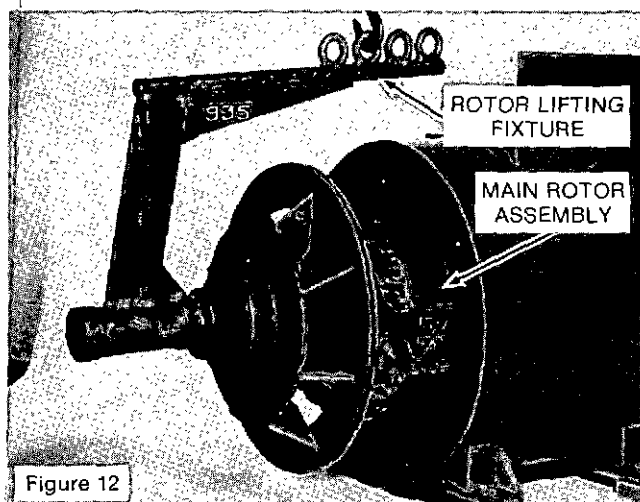

Figure 12
5. Using a rotor lifting fixture and a suitable hoist, carefully remove the rotor assembly from the main stator and frame assembly through the drive end. (See Figure 12.)